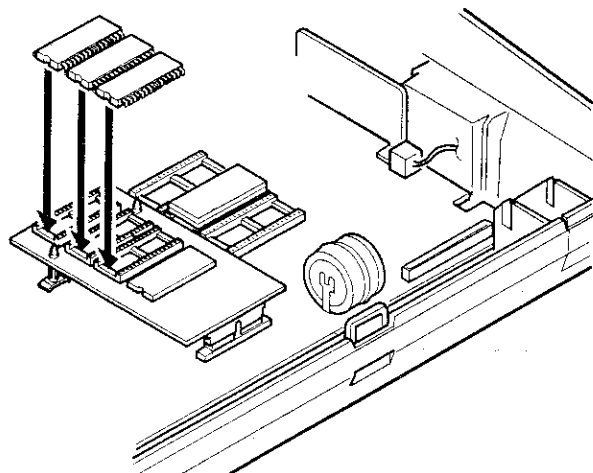

Fig. 5
③ Mounting the ER-02RA on the ER-01MB
2) Install the ER-02RA on the ER-01MB above the main PWB. Mount the ER-02RA in the RAM sockets as indicated below. (Fig. 5)